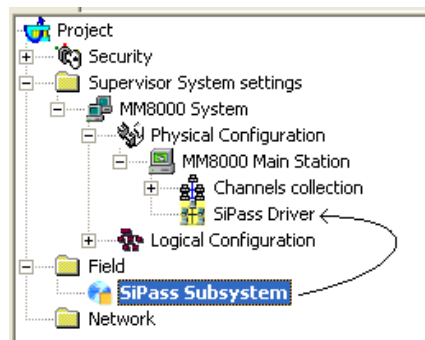

Fig 3 Linking the SiPass subsystem
2. Drag and drop it on the **SiPass Driver** (Fig 3).